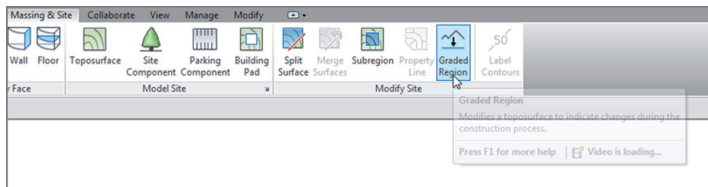

FIGURE BC3.36: Graded Region
7. On the Massing & Site tab, click the Graded Region button, as shown in Figure BC3.36.